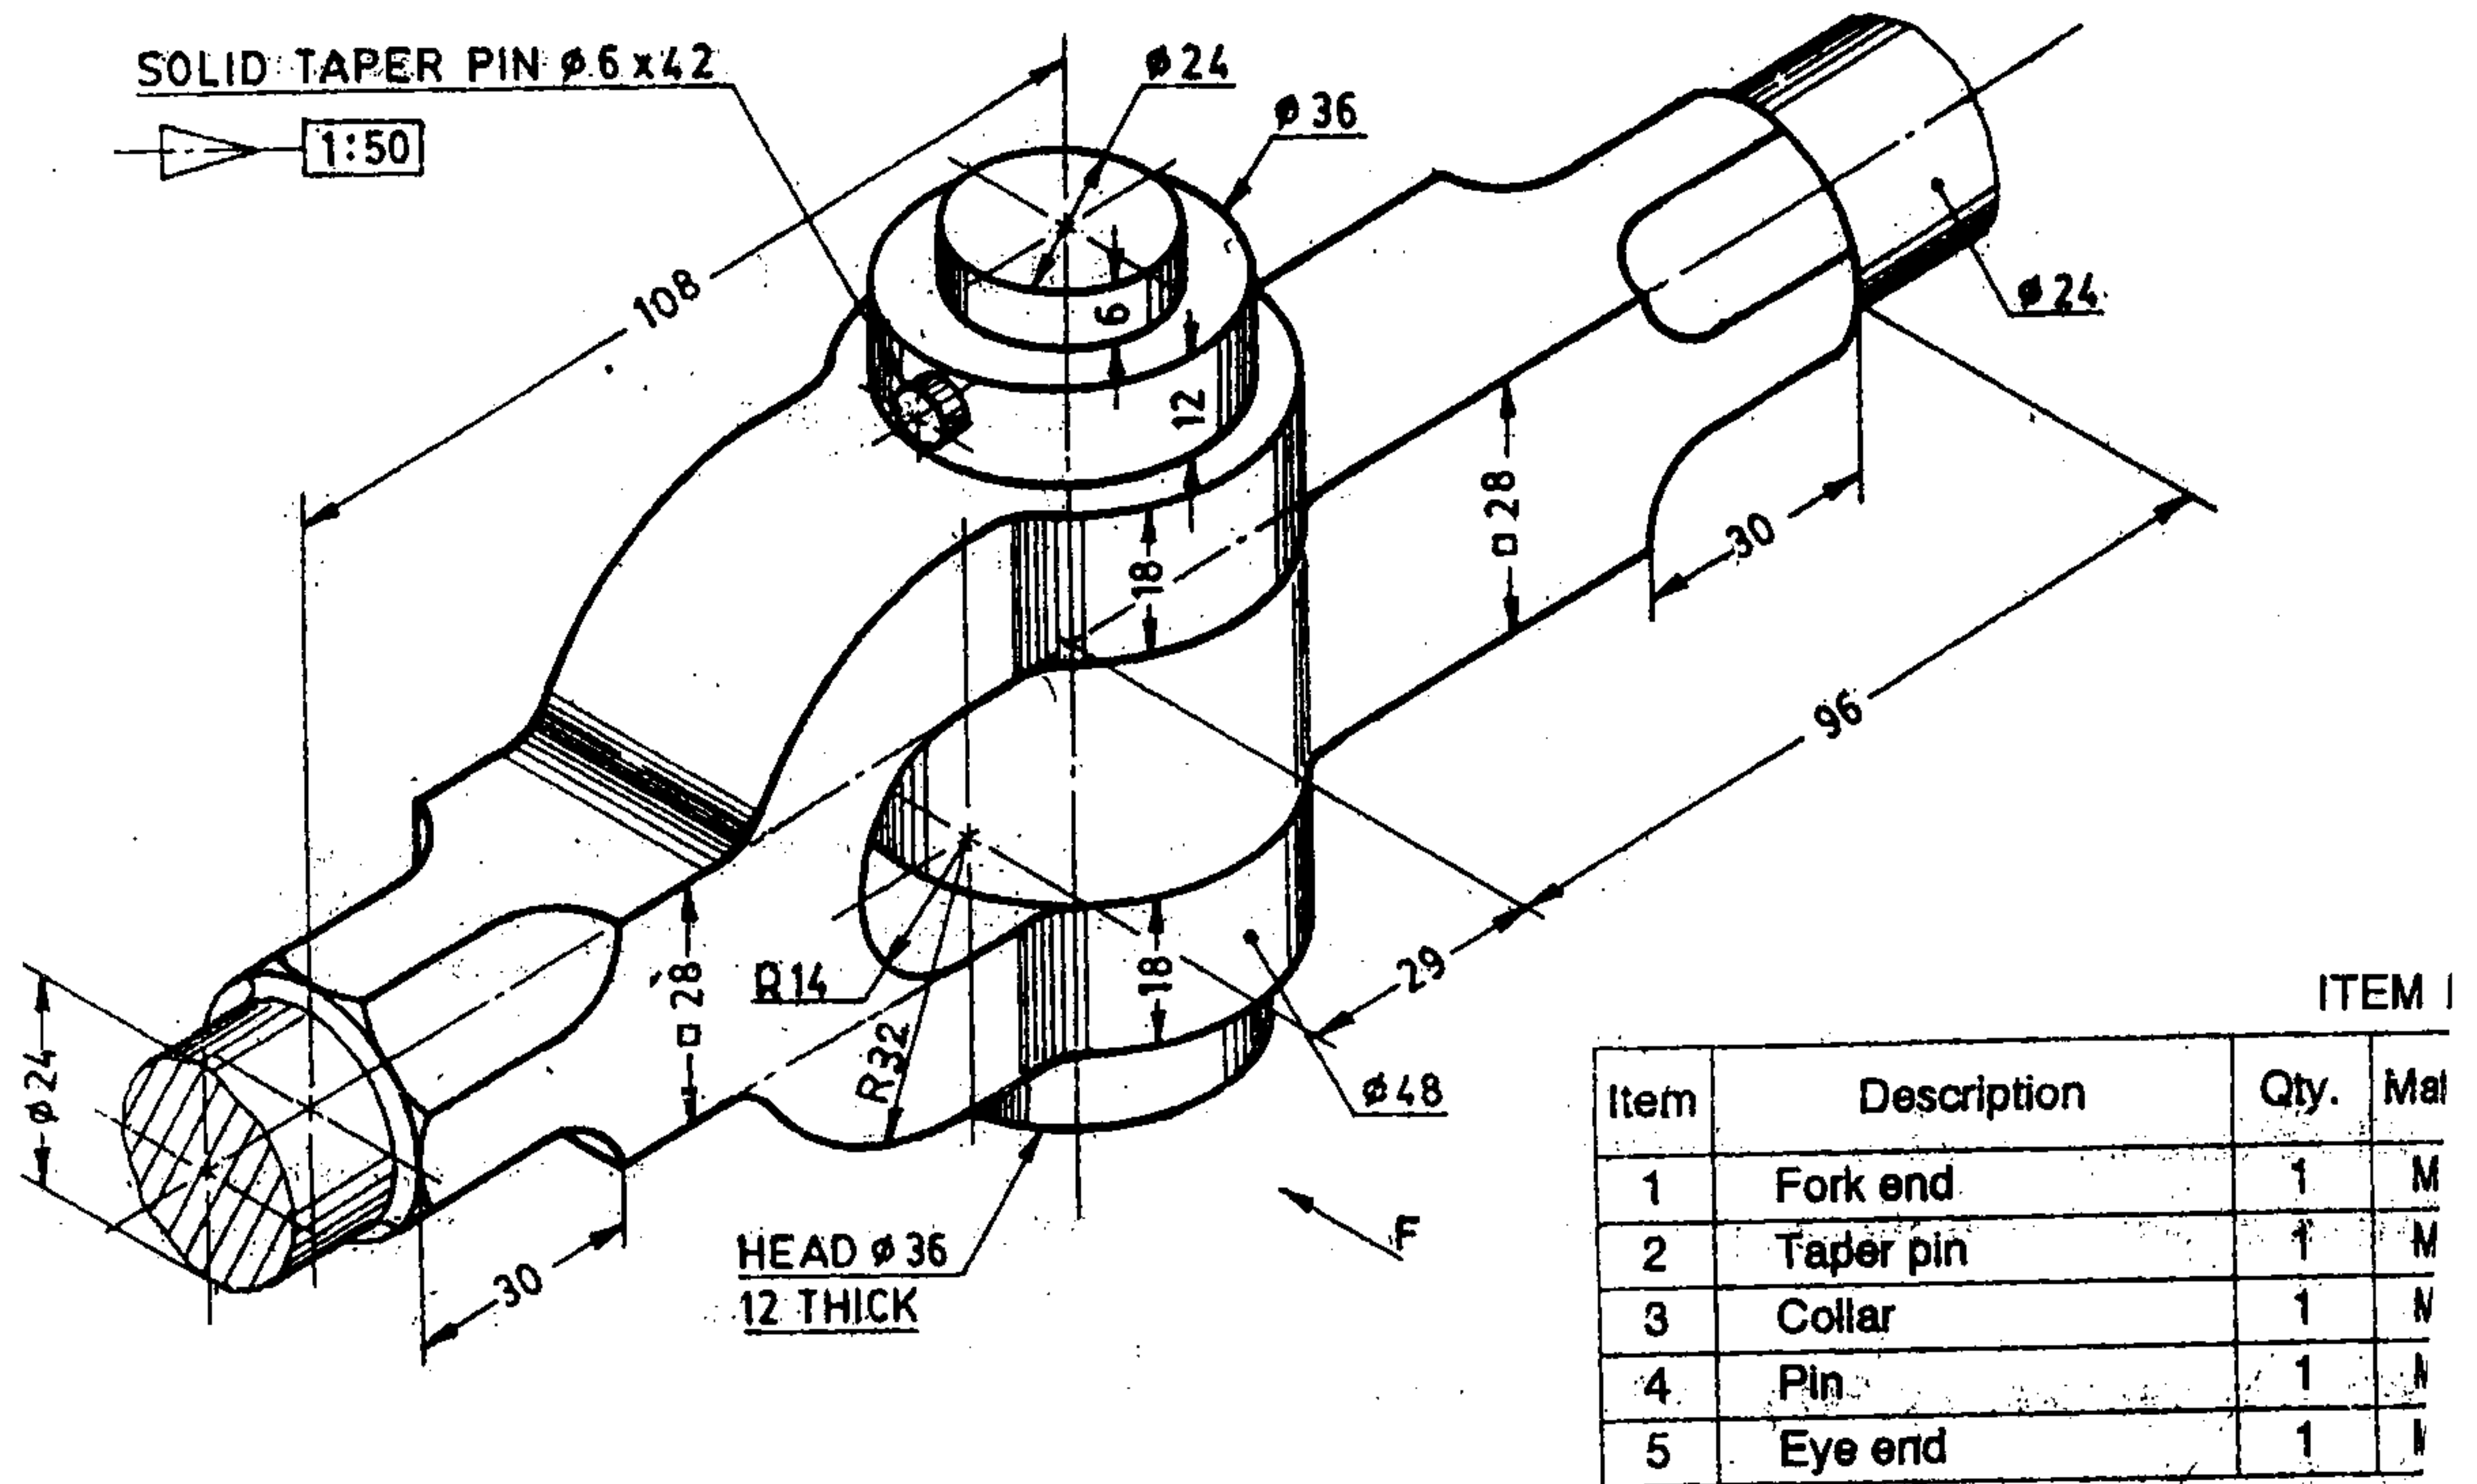

Fig. 2
4. Fig. 2 shows an isometric view of Knuckle joint. Draw